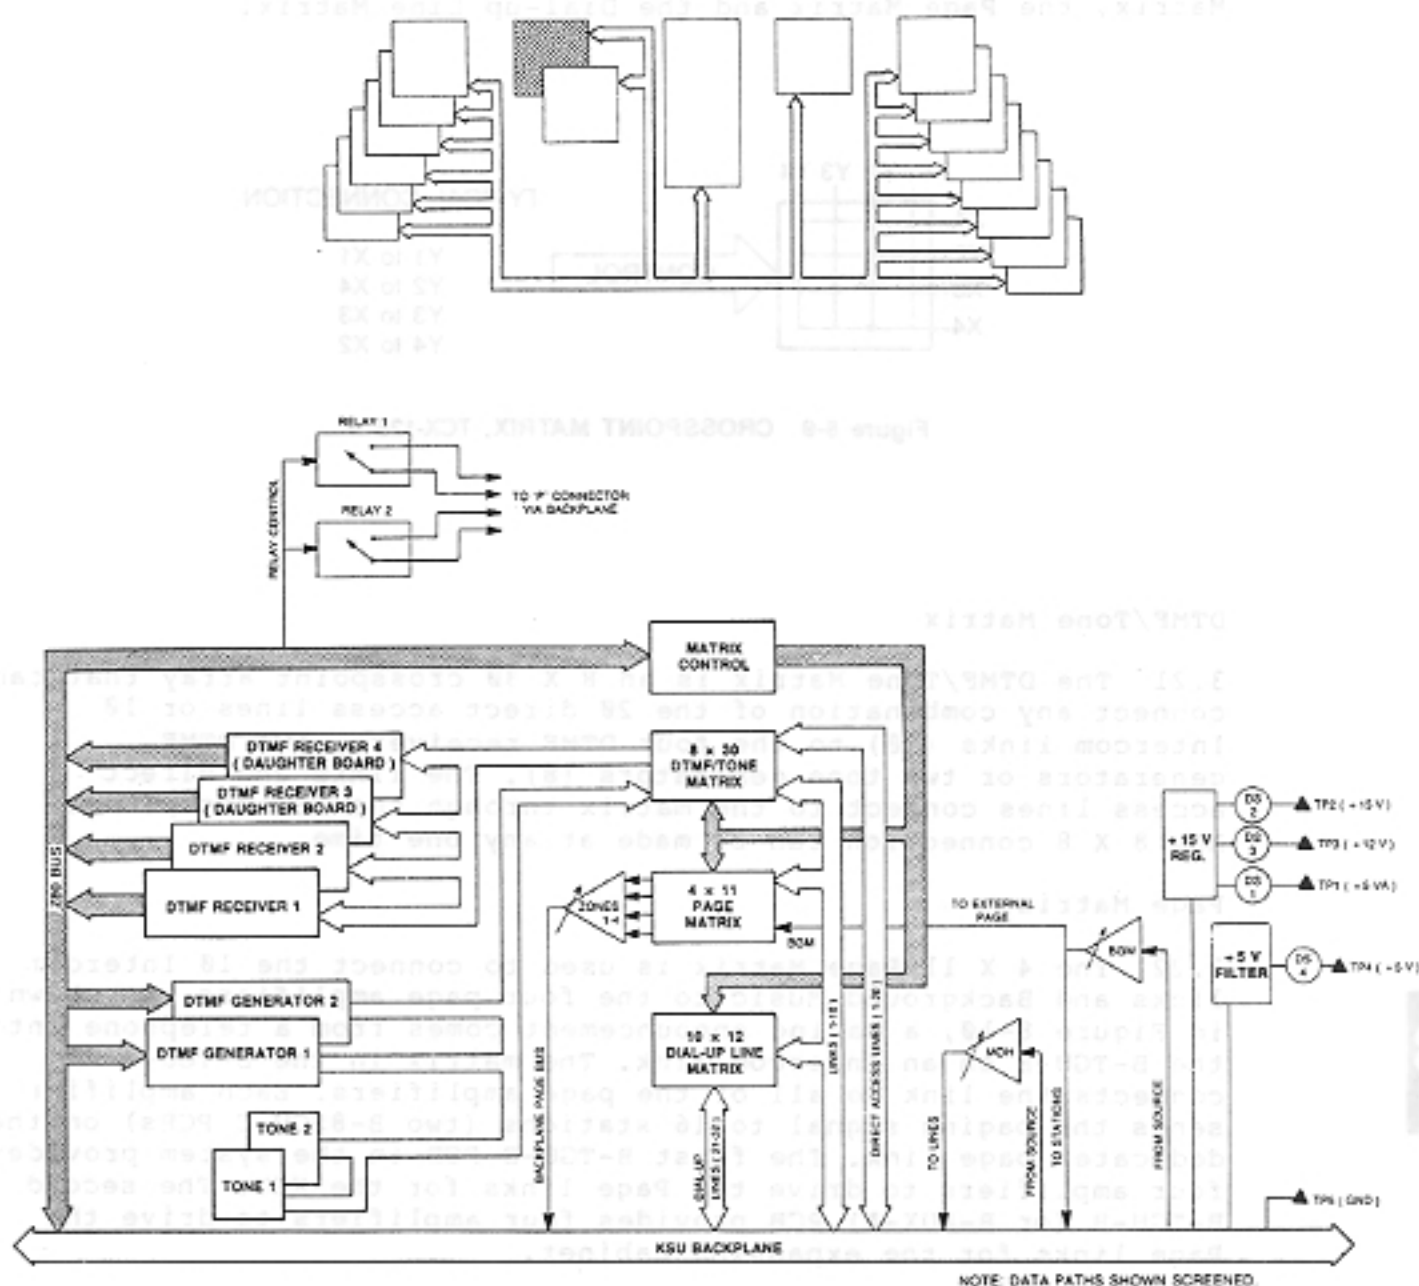

Figure 8-8 B-TGU-B TONE GENERATOR UNIT PCB BLOCK DIAGRAM, TCX-128
3.15 The B-TGU-B PCB (Figure 8-8) consists of Dual Tone Multifrequency (DTMF) generators and receivers; system tone generators; amplifiers for Background Music (BGM), Music on Hold (MOH) and internal Page Zones; and relay contacts to control external ringers and audio equipment. The B-TGU-B is connected directly to the Z80 Data Bus, and is addressed by the Z80 as if it were memory.